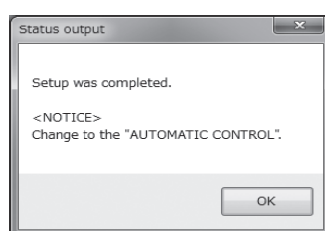

Fig.51
- ⑩ Click "OK" to change the settings to the selected values, and then click the "OK" button in the displayed message box (Fig. 51) to complete the setting process.